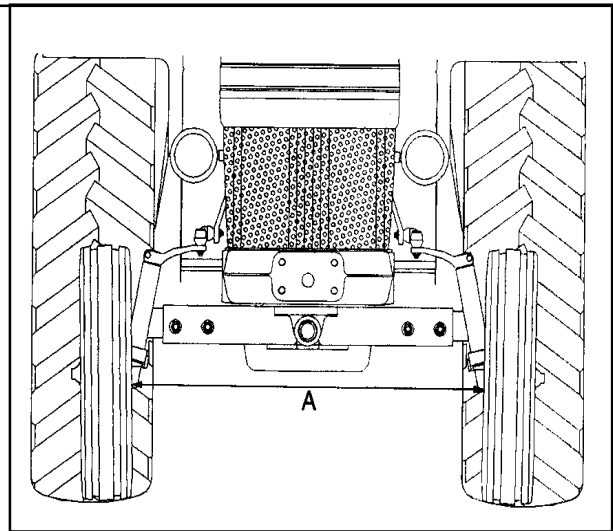

Figure 3
3. Measure and note the distance between the two marks, call this dimension a, Figure 3.